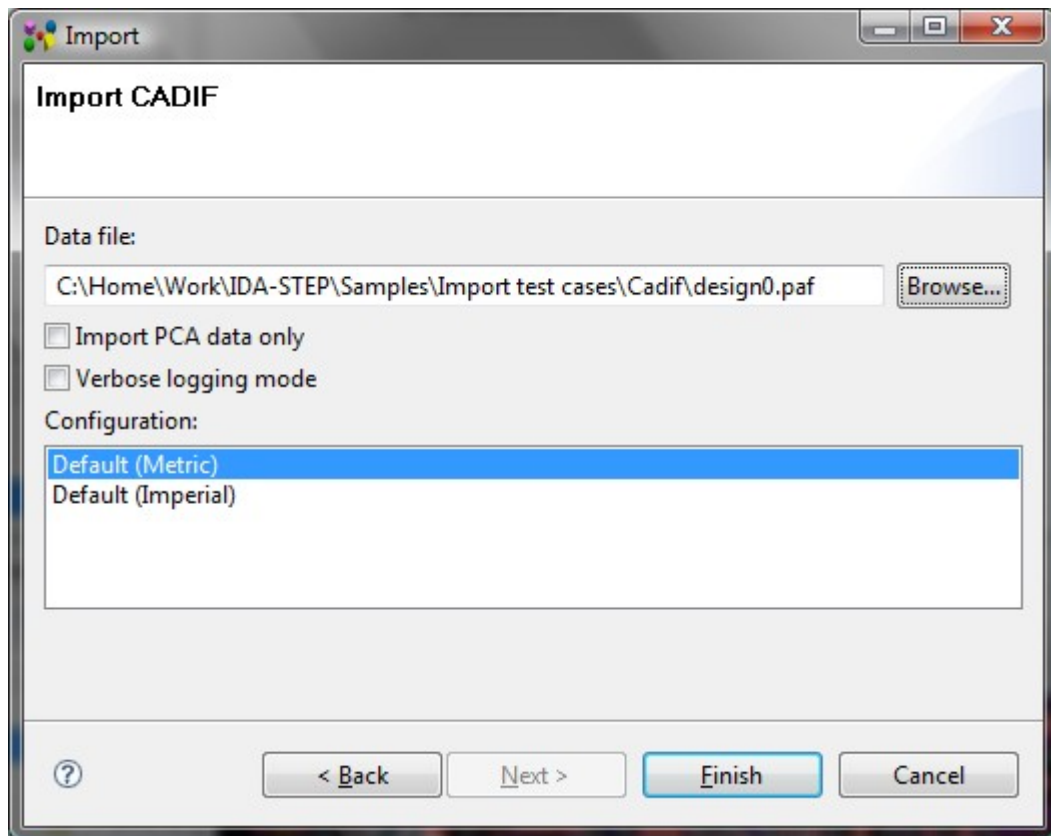

Figure 1. Import CADIF wizard page
- Select **Electronics ->  CADIF** item in the appeared **Import** wizard page. The **Import CADIF** wizard page appears on the screen (see Figure 1):